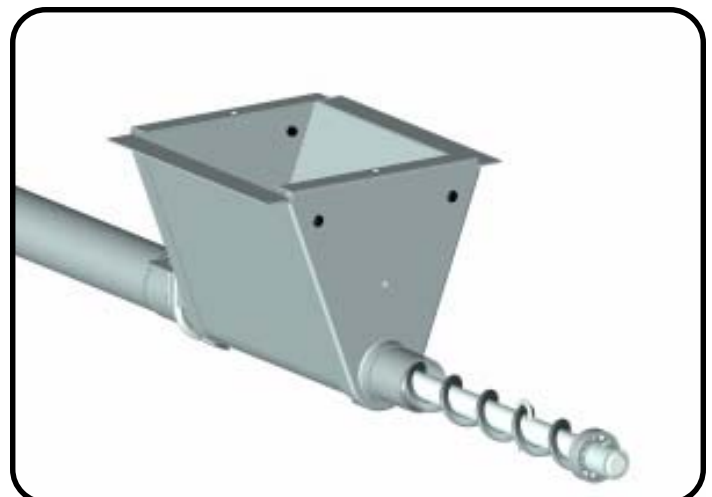

Figure 5
7. With the pliers still in place, insert the idler shaft assembly into the auger and thread the auger through the U-bolt as shown in Figure 5. Make certain that the idler assembly is threaded up to the bearing washer.